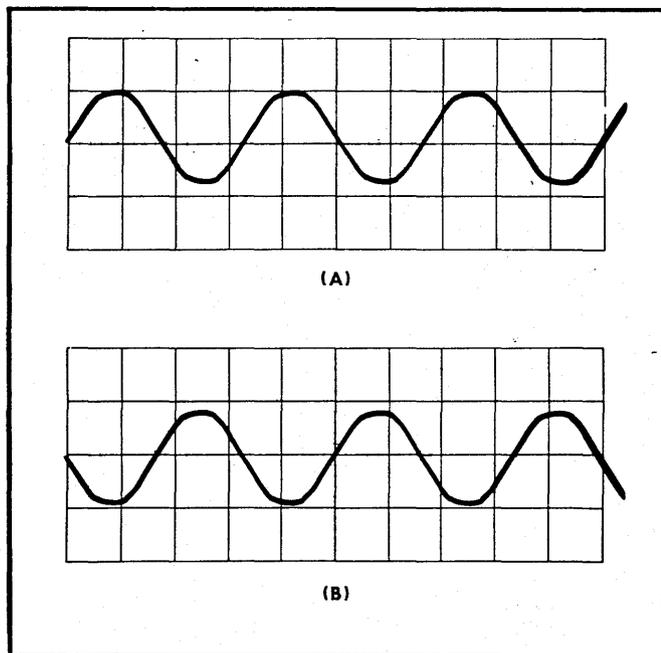

Fig. 5-10. Line Triggering. (A) Positive slope triggering. (B) Negative slope triggering.
f. Check—Slope of the display must correspond with the settings of the TRIGGER SLOPE switch. See Fig. 5-10.